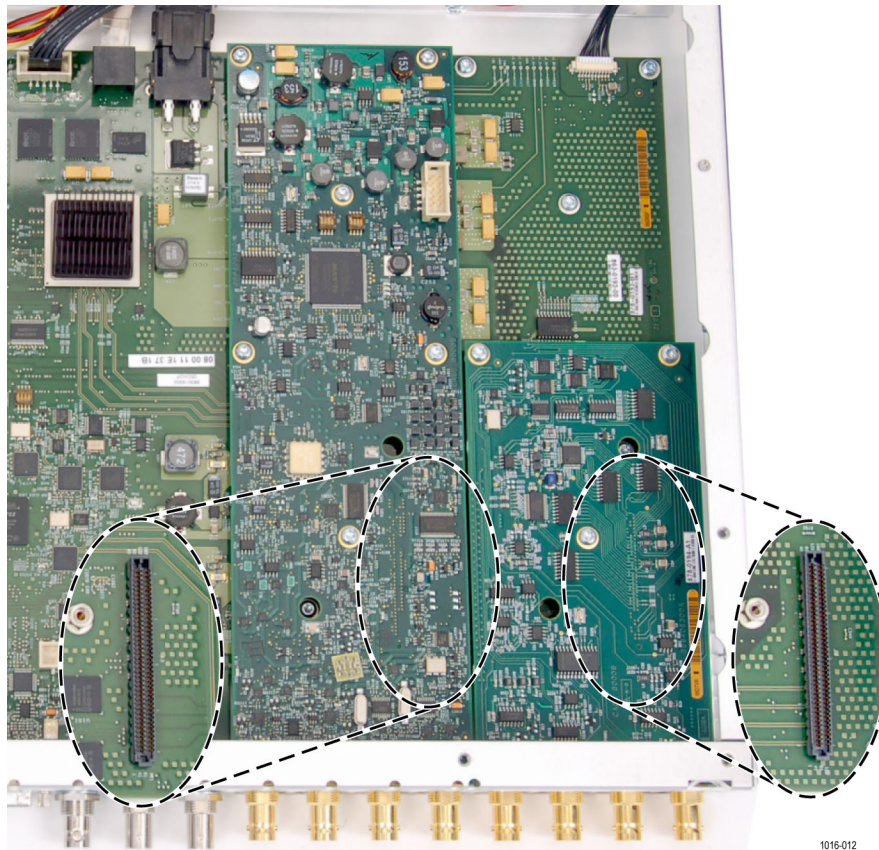

Figure 6: Video board connector location
- b.** Make sure the connector on the bottom of the video board and main board line up. Pressing only over the location of the connector, gently press the video board down until the connectors engage. (See Figure 6.) The video board should sit firmly on all six posts.